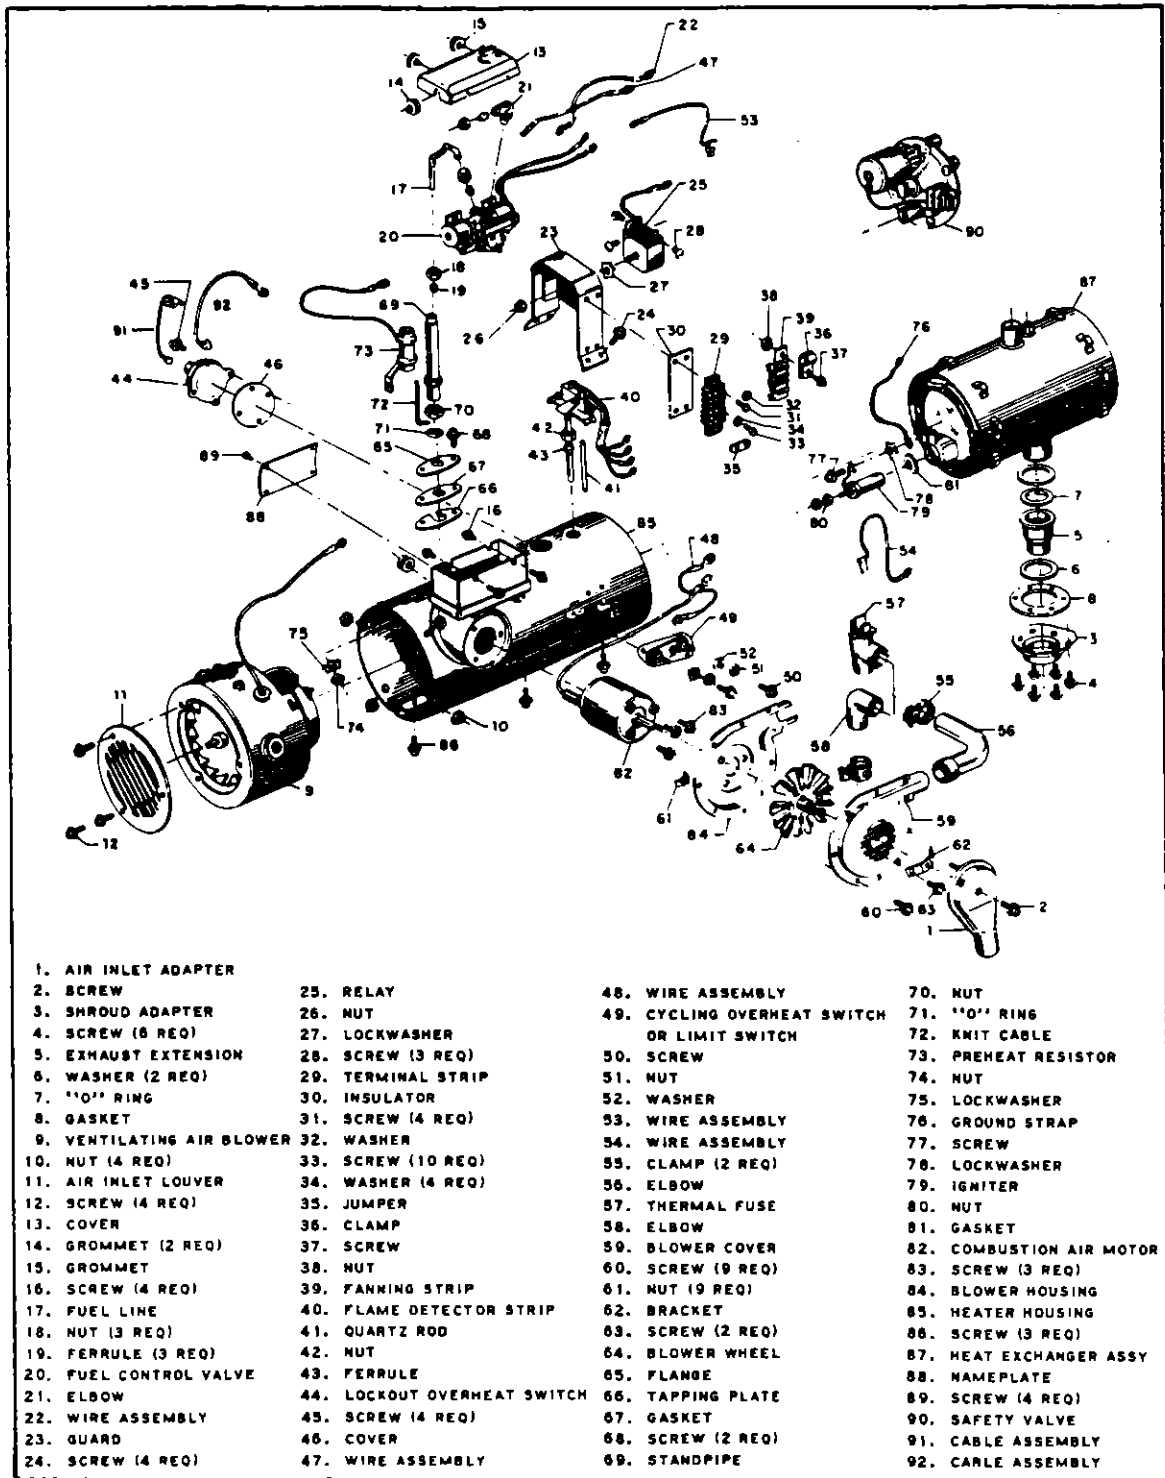

Figure 13-10. Exploded Parts View, Heater Assembly
The instructions in the following paragraphs cover all models of the 940 Series heaters. Figure 13-10 is a composite exploded parts view, showing all
13-44. DISASSEMBLY. (Refer to Figure 13-10.)
- a. Remove the combustion air inlet adapter (1) by removing the sheet-metal screw (2) in its center (Refer to Figure 13-10.)
- b. Remove the shroud adapter (3) by removing the six screws (4) from the weld nuts in the heater housing.